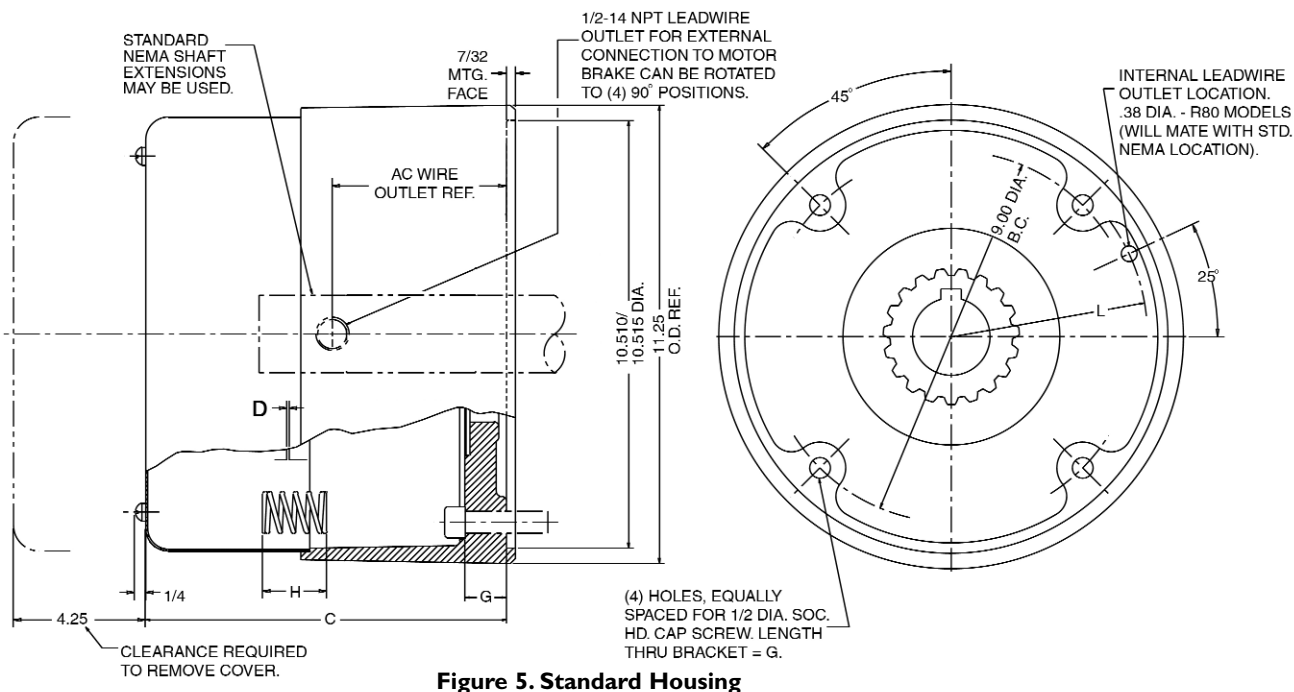

Figure 5. Standard Housing
2. Remove cover screws (24) and cover (23).
4. Bolt brake to motor "C" face with four 1/2 inch socket head cap screws. See Figures 5 and 6 for screw length thru bracket.